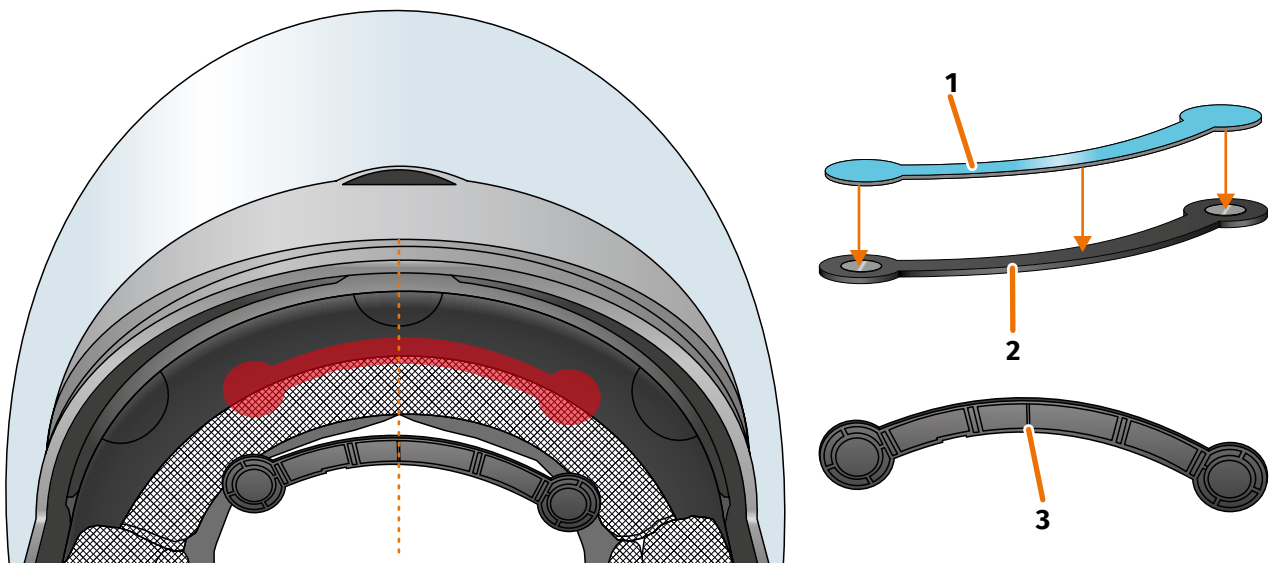

FIGURE 11 // Using an adhesive pad to glue in the narrow helmet adapter
1. Apply the adhesive pad (FIGURE 11/1) to the side of the helmet adapter on which you can see the magnets.
2. Place the helmet adapter (FIGURE 11/2) in the forehead section of the helmet, between the inner shell and the outer shell (FIGURE 11/shown in red). There is a mark at the bottom of the helmet adapter (FIGURE 11/3) that should be placed on an imaginary line between the middle of the helmet and the middle of your face (FIGURE 11/dotted line). Make sure the helmet adapter does not collide with the sun visor.